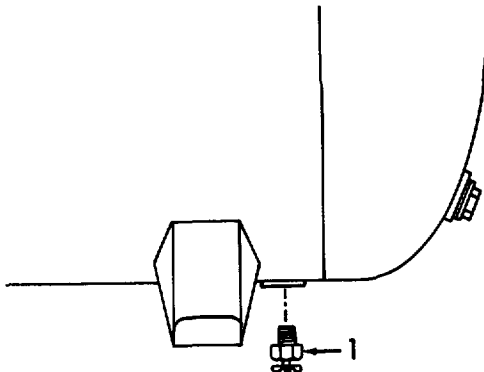

Figure 3-39. Drain Cock, Removal.
- a. *Removal.* Unscrew and remove drain cock (1, Figure 3-39).